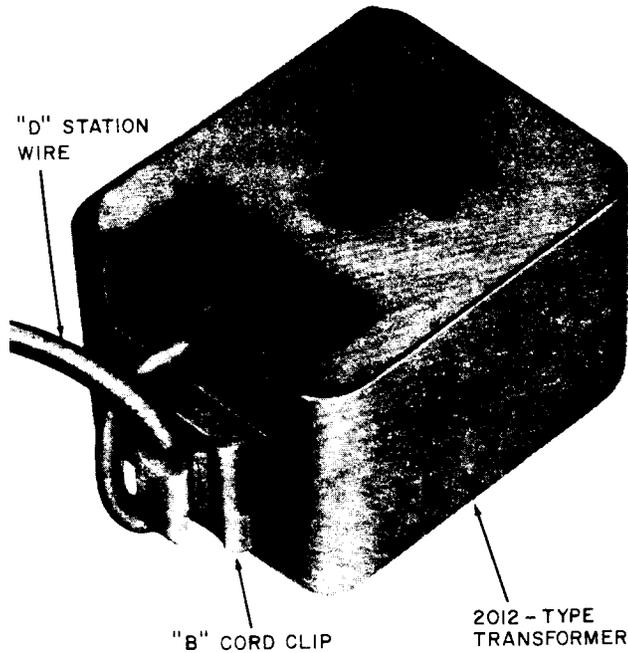

Fig. 4—Cord Clip Used to Secure Station Wire to 2012-Type Transformer
2.23 Remove protective paper from adhesive of B cord clip and stick clip to bottom of 2012-type transformers as shown in Fig. 4. Terminate D station wire on screw terminals of 2012-type transformer and hook station wire through B cord clip as shown in Fig. 4.